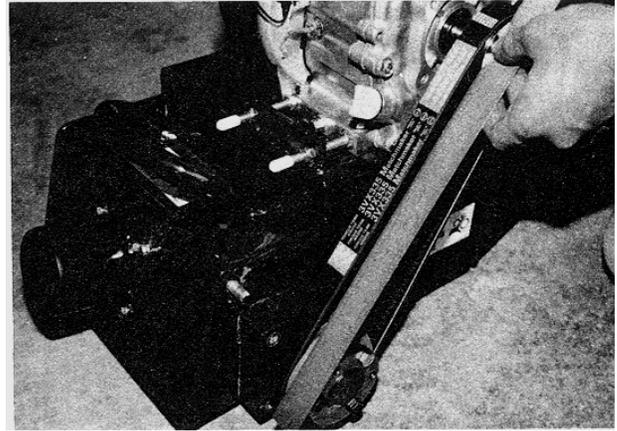

FIGURE 36
8) Belt alignment is checked with the straightedge. Place the straightedge squarely against the driveshaft pulley. Properly aligned pulleys should also place the straightedge squarely against the engine/electric motor pulley. Remove the straightedge and rotate the engine pulley 120 degrees. Recheck the alignment with the straightedge. Repeat the process until the engine/electric motor pulley has been rotated a full 360 degrees. Maximum allowable misalignment is  $\pm 1/32$  inch. FIGURE 36.